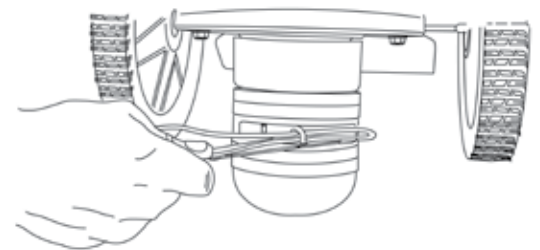

Figure 6
3. Pull the cord under the loop and push the loop up into the line plate groove above them (see Figure 6) and then pull the cord ends tight.